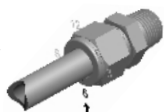

Fig. 2
2. Mark the nut at 6 o'clock position. (Fig. 2)